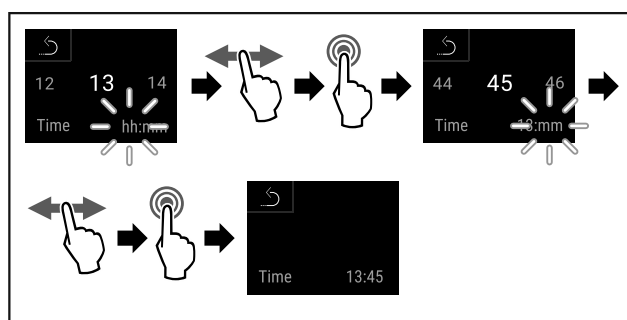

Fig. 108
- ▶ Complete steps (see Fig. 108).